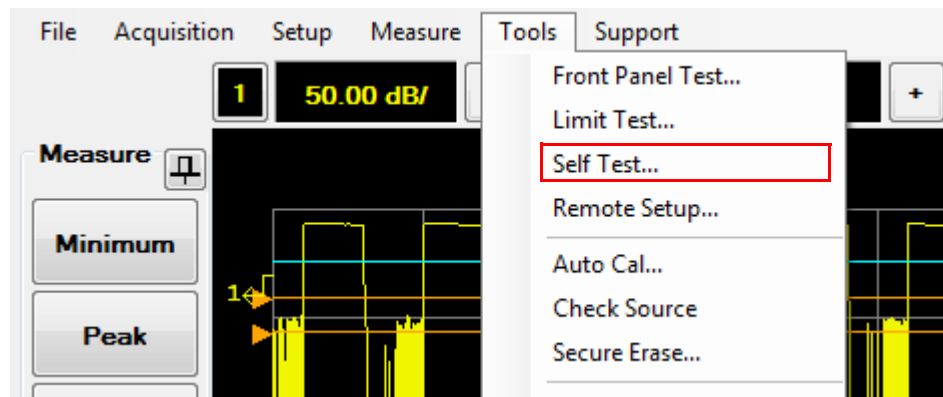

Figure 3-4 Self Test... selection in the Tools menu
- 1 Select **Tools > Self Test...** on the toolbar as shown in Figure 3-4.